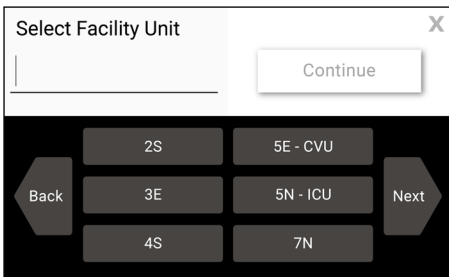

Figure 3. Facility unit selection screen
3. Select the Facility unit and press continue. (Fig. 3)